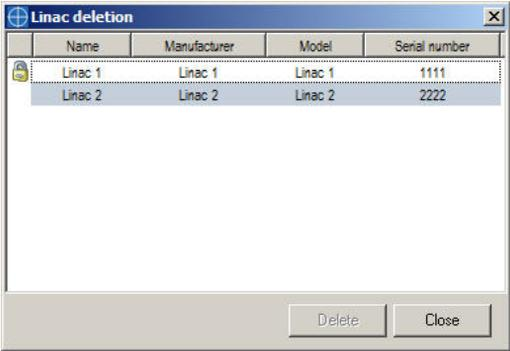

Figure 21: Linac Deletion Window
- Open the Linac deletion window (Figure 21)